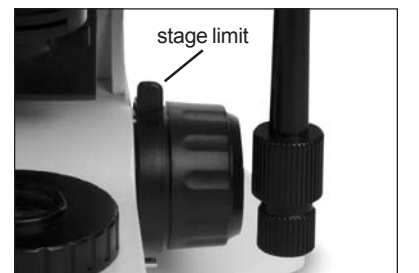

Figure 32
20. Located inward of the right hand coarse focus adjustment (figure 32) is the stage limit which prevents the stage from crashing into the objectives.